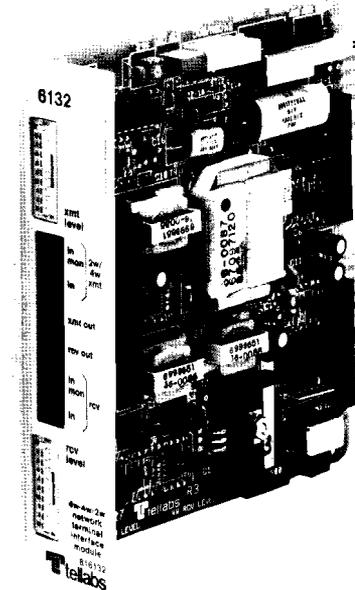

figure 1. 6132 2Wire-to-4Wire or 4Wire-to-4Wire Network Interface Module
1.01 The 6132 2Wire-to-4Wire or 4Wire-to-4Wire Network Terminal Interface Module (figure 1) provides transmission interface between a 2wire or 4wire metallic facility and a carrier channel or PBX. Both adjustable prescription-set gain or loss and switch-selectable 2wire-to-4wire or 4wire-to-4wire operation are available. In addition, the 6132 accepts any plug-on Tellabs 6008X Signaling Converter subassembly to provide optional signaling conversion between a variety of facility-side signaling formats and terminal-side E&M signaling.